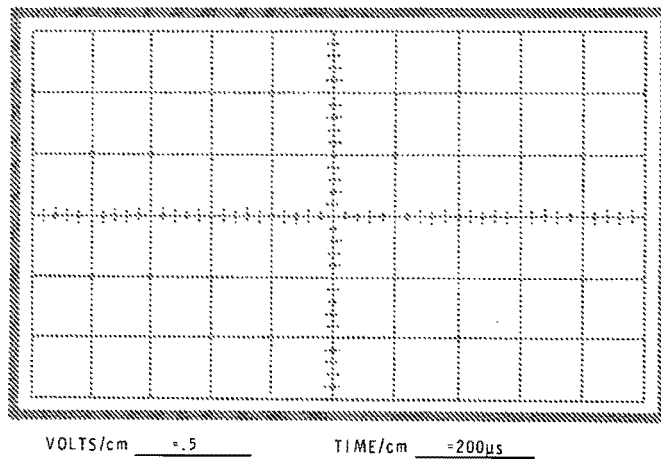

Figure 2-37
- Rotate control  $R_1$  1/4 turn clockwise (CW) and notice the distorted waveform. Draw this waveform on the graph in Figure 2-37.